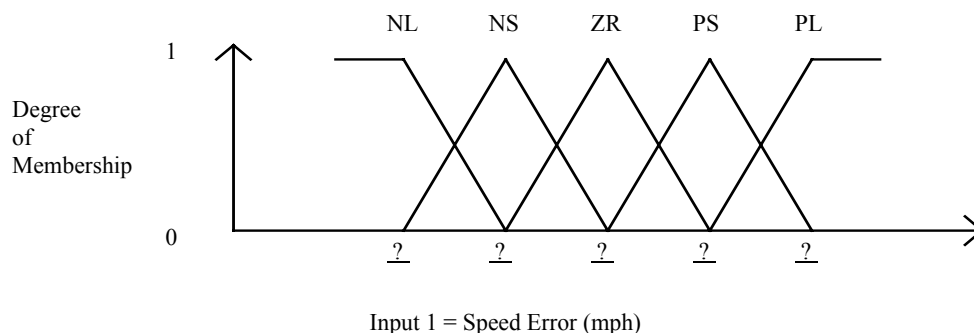

Figure 63 – Input 1: Speed Error Membership Function
ZERO, POSITIVE SMALL, POSITIVE LARGE} for a system with five (5) fuzzy sets per input or output. The next problem is to determine where are the starting and ending points for the fuzzy sets. Review Figures 63, 64, and 65 for schematic representations of these inputs and outputs to the Fuzzy Controller.
The objective in a speed control is to reach the desired speed (setpoint) as smooth as possible, in the fastest time, and without going over (overshoot) or oscillating around the setpoint. To avoid oscillations and to increase the chances of smooth control, it is generally good practice to cover the entire range of the input with the membership functions. Thus, in this case a good choice might have POSITIVE SMALL centered at 40mph and POSITIVE LARGE centered at 80mph. You may be asking yourself the obvious question; How can a 40mph speed error be considered small!!! By reviewing Figure 63 you can see that with POSITIVE SMALL centered at 40, the entire range actually spans from 0 to 80mph and POSITIVE LARGE from 40mph to indefinitely. Thus, a value of 40mph actually covers the entire range better than a small value. Additionally, in the actual implementation of this Fuzzy Controller one would find that the larger this value, the smoother the control. This is true because the transition from one fuzzy set to the next is quite large which prevents rapid, and sometimes uncontrolled, changes in the rules which are affected by your process logic. Note that the negative half of the membership functions are the same as the positive half with minus signs.